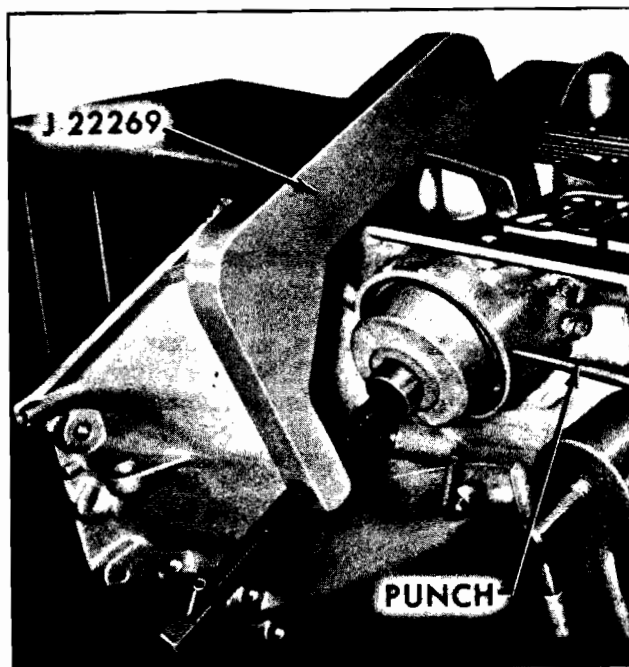

Fig. 7F-31 Removing Low Servo Cover Snap Ring
5. Remove low servo cover snap ring, using Tool J 22269 to compress low servo cover so that snap ring can be removed with the aid of a punch or screwdriver (Fig. 7F-31).